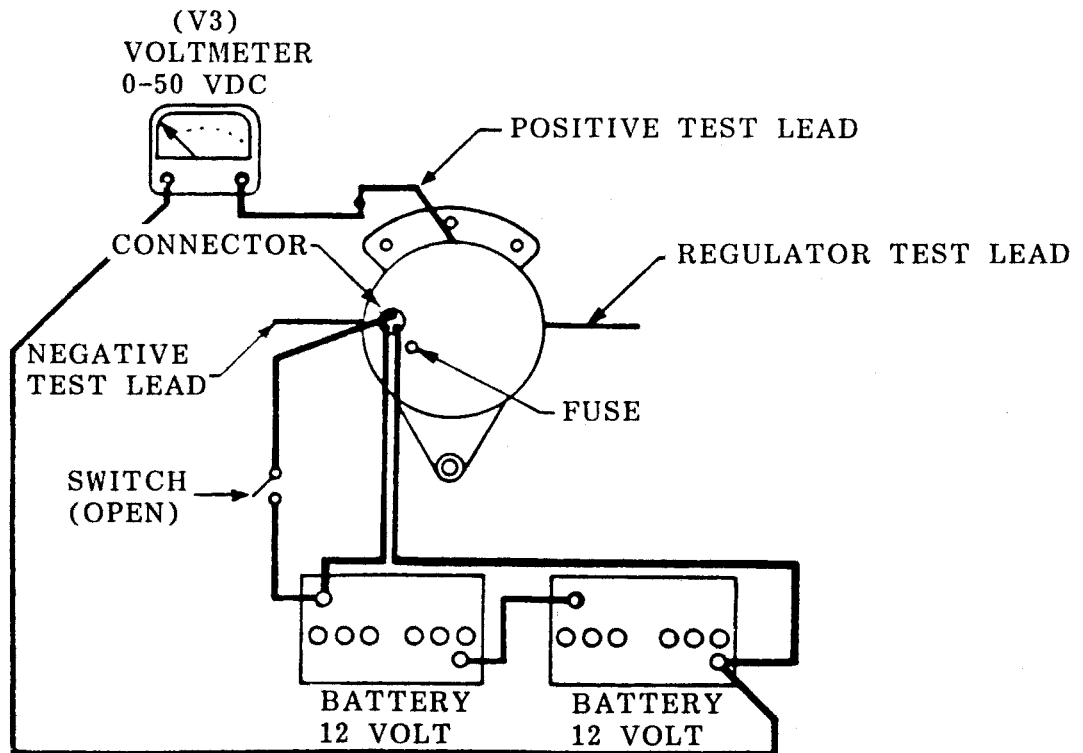

Figure 7-9. Alternator Positive Output Circuit Test.
- (3) Install alternator in test circuit as shown in figure 7-9.